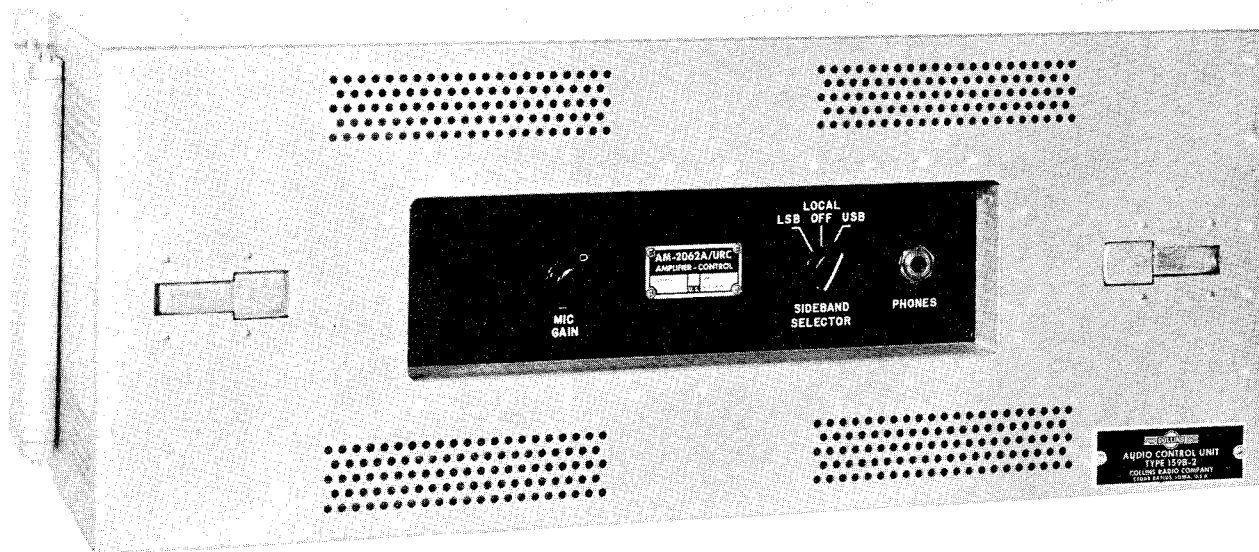

Figure 1-6. Amplifier-Control AM-2062A/URC
f. AMPLIFIER-CONTROL AM-2062( )/URC. - (Refer to figure 1-6.) The AM-2062( )/URC is a dual-channel amplifier with audio inputs for two 600-ohm balanced lines and a 600-ohm unbalanced line. During transmit operation, the audio signals from the handset adapter (C-2691/URC) are applied to the unbalanced line of the audio and control unit (AM-2062( )/URC). The LSB and USB outputs are routed to the balanced modulator in the sideband generator (AM-2064/URC). During receive operation the USB or LSB output of the sideband generator is applied to the audio and control unit (AM-2062( )/URC); the output of the unit is routed to the handset adapter.